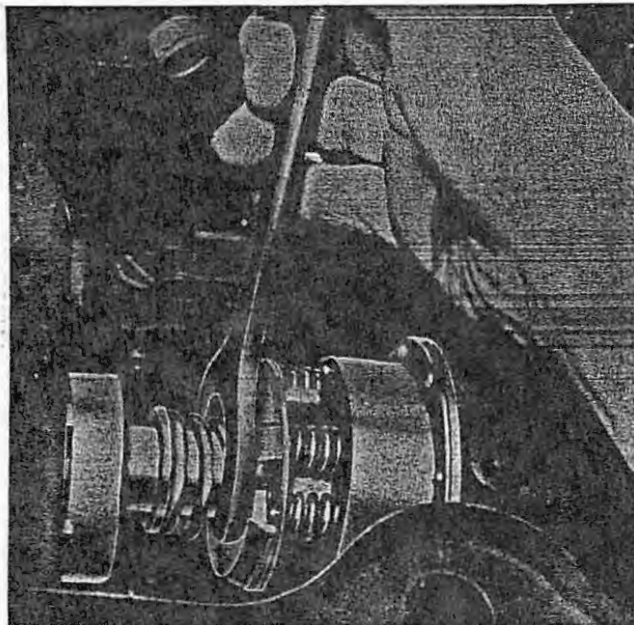

Figure 2-83. Overload Clutch Adjustment
b. Loosen the lock screw on the tension nut (figure 2-83).